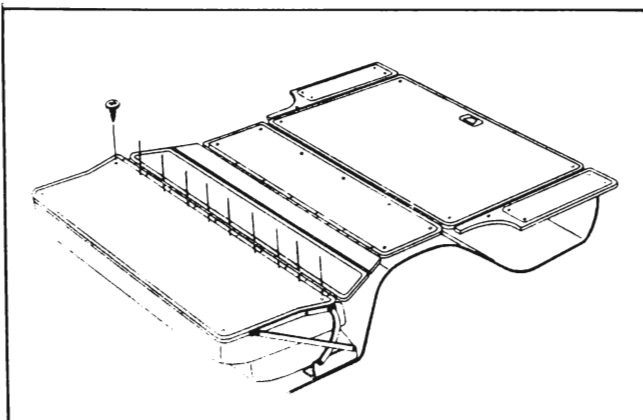

Figure 13-63 — Folding Rear Seat Back Assembly
2. Remove rear floor filler panel to folding seat back panel attaching screws as shown in Figure 13-63.